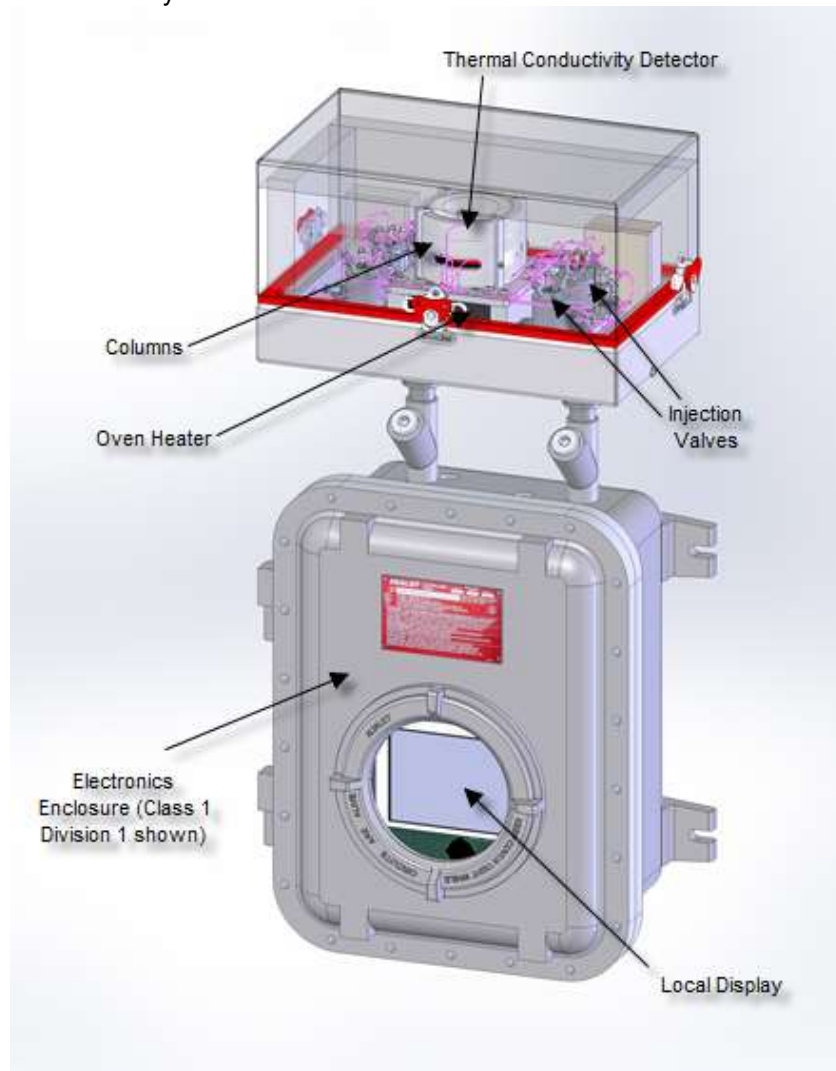

Figure 2-1: Main Components of the AccuChrome Gas Chromatograph-Class 1 Division 1
The standard ACCUCHROME (Figure 2-1) consists of two compartments. The upper compartment is referred to as the 'chromatograph oven', and houses the components involved in the chromatograph analysis process. The 10 port valve (and 6-port valve, in High Speed Heating Value Analysis analyzers), the chromatograph column(s), and the thermal conductivity detector (TCD) are described further in Sections 2.2 and 2.3. A heater maintains a constant temperature within the oven, which is critical for proper separation of the sample gasses and the stability of the detector.
The electronics enclosure houses the controller board, the I/O board and the display. Class 1 Division 1 models also have 2 intrinsic safety (IS) barrier boards. Figure 2-1 shows the Class 1 Division 2 model.